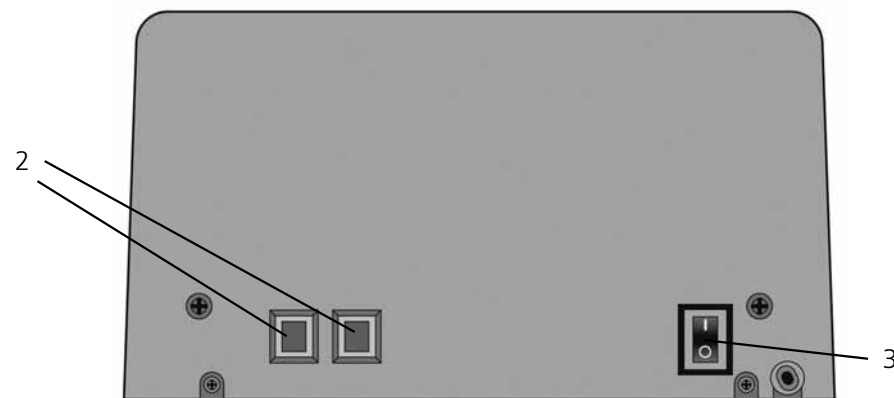

Fig. 1
1. Connect the device to the wall outlet (110/220 V, 60/50 Hz) and switch it on with the **Power switch** on the front panel of the unit (Fig. 1).